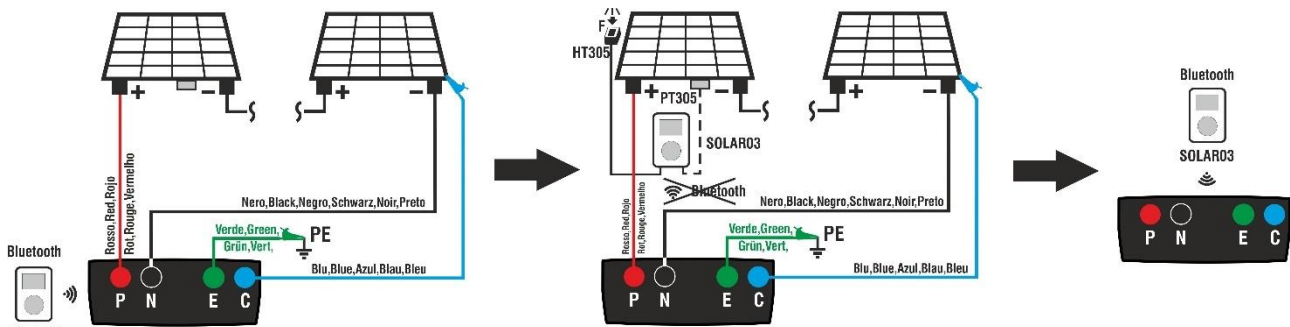
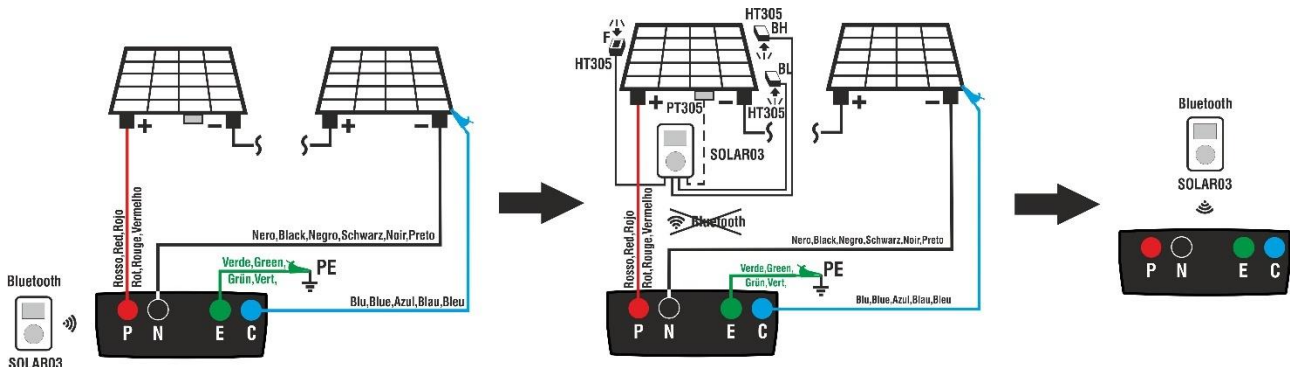

Fig. 12: Connection of SOLAR03 in synchronous recording on Mono-facial PV modules
Fig. 13: Connection of SOLAR03 in synchronous recording on Bifacial PV modules
1. Connect the instrument to the PV module/string being tested and to the main earth node of the system, and to the metal masses connected to earth as shown in Fig. 12 (Mono-facial modules) or Fig. 13 (Bifacial modules) In detail:
- Move the SOLAR03 remote unit close to the instrument as shown in Fig. 12 or Fig. 13 – left side part
- Move the remote unit close the modules and connect the irradiance/temperature probes as shown Fig. 12 or Fig. 13 – middle side part. **Since recording has already been activated on remote unit SOLAR03, it is not necessary to maintain the Bluetooth connection anymore.** Maintaining the connection (if possible) will only allow to immediately obtain the outcome of the test without waiting for the measuring campaign to be completed.
16. Once testing has ended, disconnect the remote unit SOLAR03, move it back close to the instrument (see Fig. 12 or Fig. 13 – right side part) and check that the connection to the instrument is active again (symbol "⌘" on **and steady** on the remote unit's display).